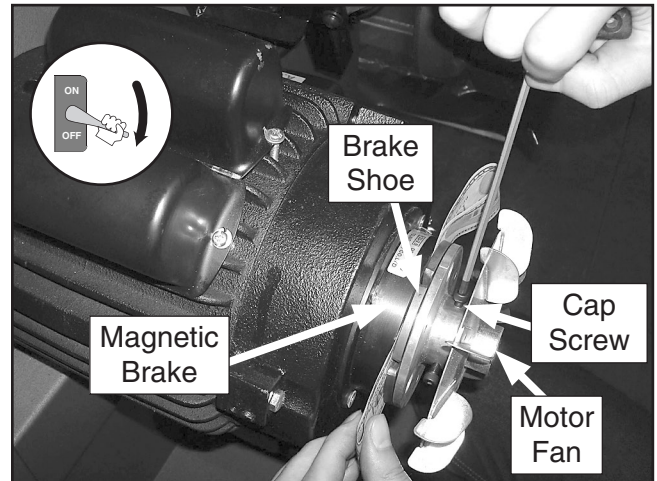

Figure 16. Adjusting distance between magnetic brake and brake shoe.
2. Remove the motor fan cover, then loosen the cap screws securing the motor fan and brake shoe (see **Figure 16**).
3. Fold two dollar bills in half and slide them between the brake shoe and magnetic brake on either side (see **Figure 16**). The space between the brake and shoe is correctly set when there is just enough tension to allow you to slide the dollar bills out.